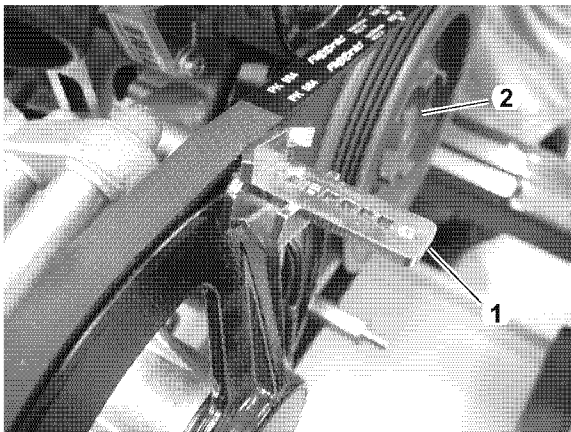

Figure 7-28
6. Install belt removal tool (1, **Figure 7-28**) between seawater pump pulley and belt.
7. Roll the belt onto the pulley by rotating crankshaft using a socket and breaker bar on the crankshaft pulley bolt (2, **Figure 7-28**). Lift end of tool while rotating.